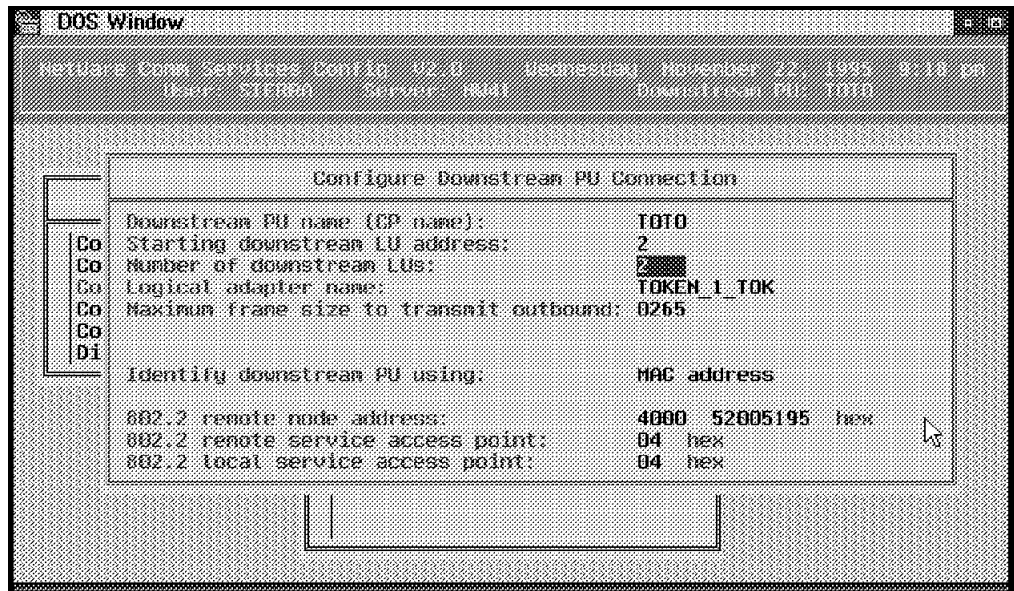

Figure 216. Configuring Downstream PUs - Parameters of the PU
13. Type the name of the PU and press Enter. The panel shown in Figure 216 appears. You have to fill in this panel with the information related to the PU you want to create.